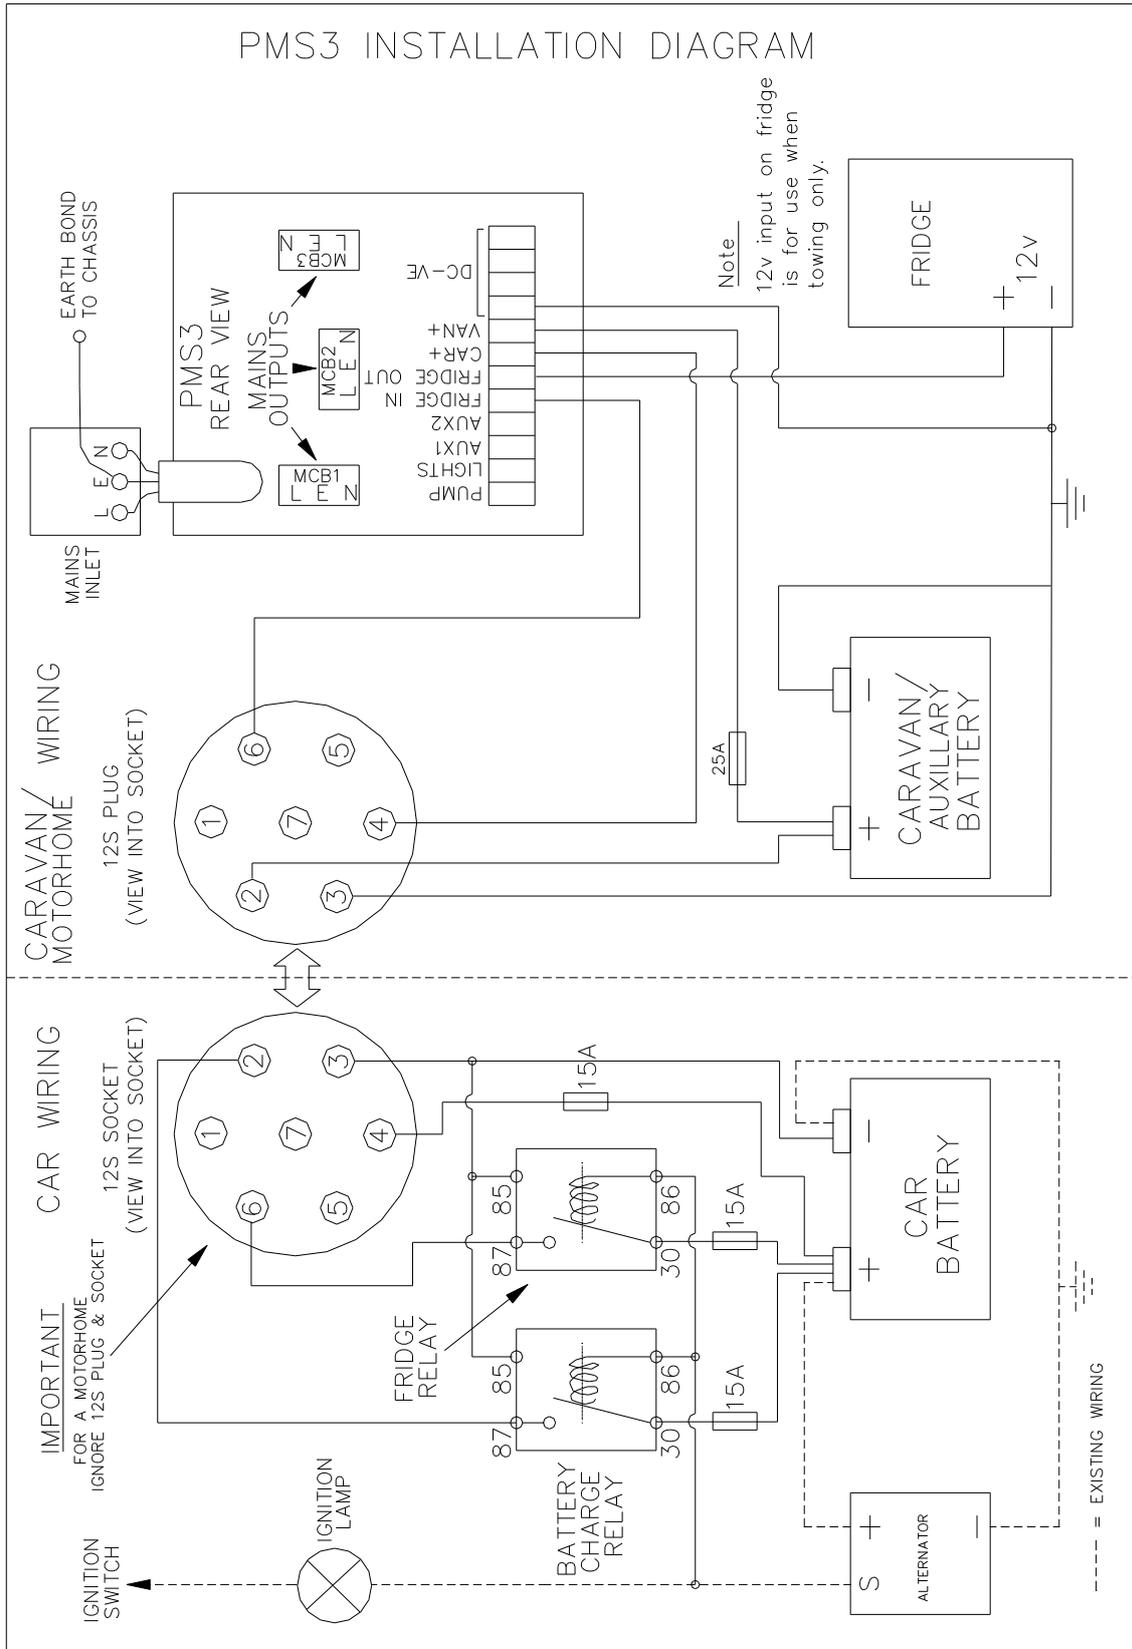

Fig 2 – Wiring Diagram
- 5 The unit can now be electrically connected using the Wiring Diagram (See Fig 2). Ensure that the correct cable is used at all times as shown below and that no bare wire is visible at any connection. If in doubt consult a qualified electrician.